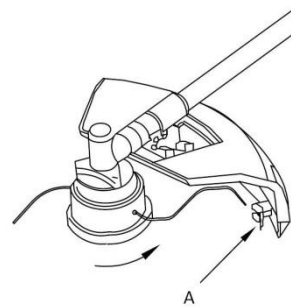

Fig. 11
- **Safety guard:** use the safety guard with the holder mounted equipped with the wire-cutter blade (A in Fig. 11) with which it can be brought to the appropriate size.